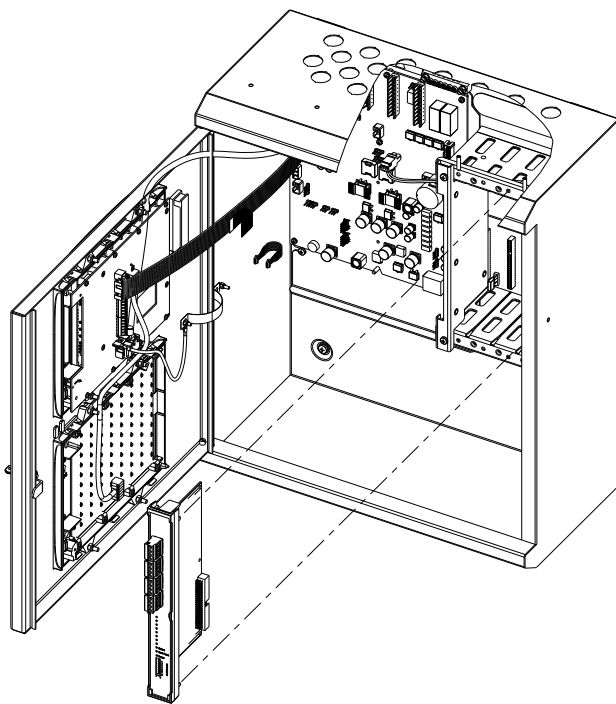

Fig. 22: Slot card installation
For a general impression of what is involved in mounting slot cards, see Fig. 22.
- 8 Insert the card into the appropriate slot in a slot card cage (see Fig. 22). This may be in the main panel housing, or in an expansion housing. See section "Obtain Slot Card Addresses". Push the card firmly until it clicks into place.
- 4 Insert the card into the appropriate slot in the slot card cage (see Fig. 22). This may be in the main panel housing, or in an expansion housing. See section “Plan Slot Card Arrangement” on page 29. Push the card firmly until it clicks into place.